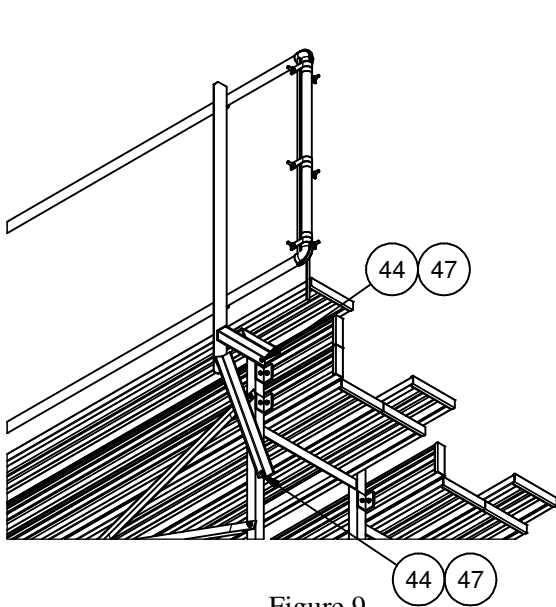

Figure 9
16. Install the side rail weldments onto the ends of the bleacher. Locate one vertical on the top row, 6th row, and on the 4th row. Position the verticals as shown in figure 9. Using the holes in the angles, drill the four 3/8" holes through the seat plank (2 holes) and the foot planks (2 holes). Attach the verticals using the 3/8" x 2.5" hex bolts and 3/8" whizlock nuts. Make sure the clamp plate is placed on the underside of the plank before installing the nuts. Tighten all bolts and nuts securely.